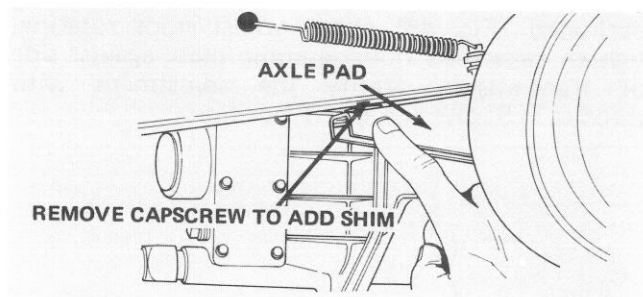

Figure 50
frame (Fig. 50). By contrast, a transmission that is too low will not allow the ruler or scale to lay alongside the coupling retainer. To correct this problem, install a 1/16 inch (1.6 mm) spacer between front of mounting pad and bottom of frame.
3. To install spacers, remove the appropriate two capscrews and loosen the others (Fig. 50). If spacers must be added to front of mounting pad, remove front capscrews and loosen the back ones. Do just the opposite to add spacers at rear of mounting pads.